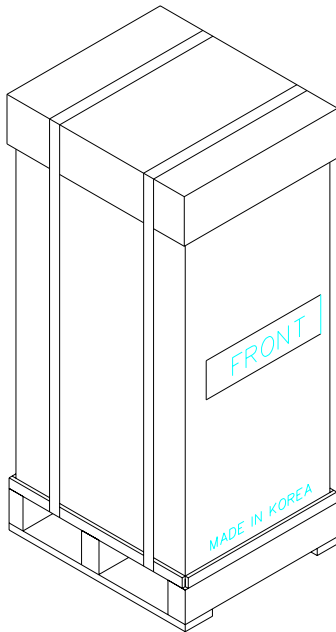

Fig.6.1
1. Cut the straps that are fastened around the box with a knife. (See Fig.6.1 below) Be careful when cutting the straps.